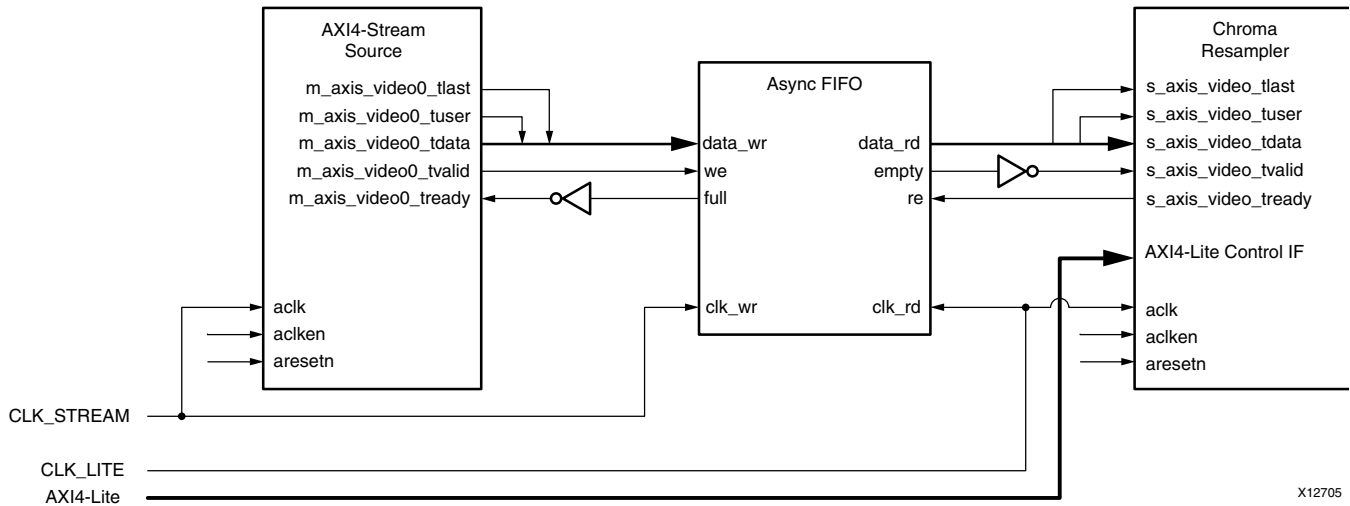

Figure 4-11: Chroma Resampler Top-Level Signaling Interface
- ($F_{CLK_STREAM} < F_{CLK_LITE}$) then clock-domain crossing logic needs to be inserted before the AXI4-Stream interface, and the Chroma Resampler needs to be clocked at the AXI4-Lite clock via the ACLK pin, as shown in Figure 4-11. Alternatively, if F_{CLK_LITE} greater than of the F_{MAX} of the Chroma Resampler, clock domain crossing logic can be inserted in front of the AXI4-Lite Control interface.
In either case, Xilinx System Integrator tools, such as EDK, can automatically infer clock-domain crossing logic using the AXI interconnect core, when the tool detects that the master / slave side of AXI4 interfaces operate on different CLK rates. For manual instantiation of clock-domain crossing logic, HDL users can take advantage of the FIFO Generator IP core, as shown in Figure 4-11.